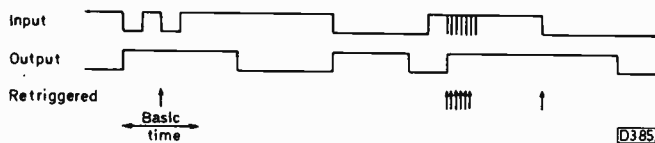

Fig. 20: Retriggerable monostable waveforms.
(3) *Retriggerable.* Each triggering edge starts the monostable timing again and extends the timing period as a result (see Fig. 20).